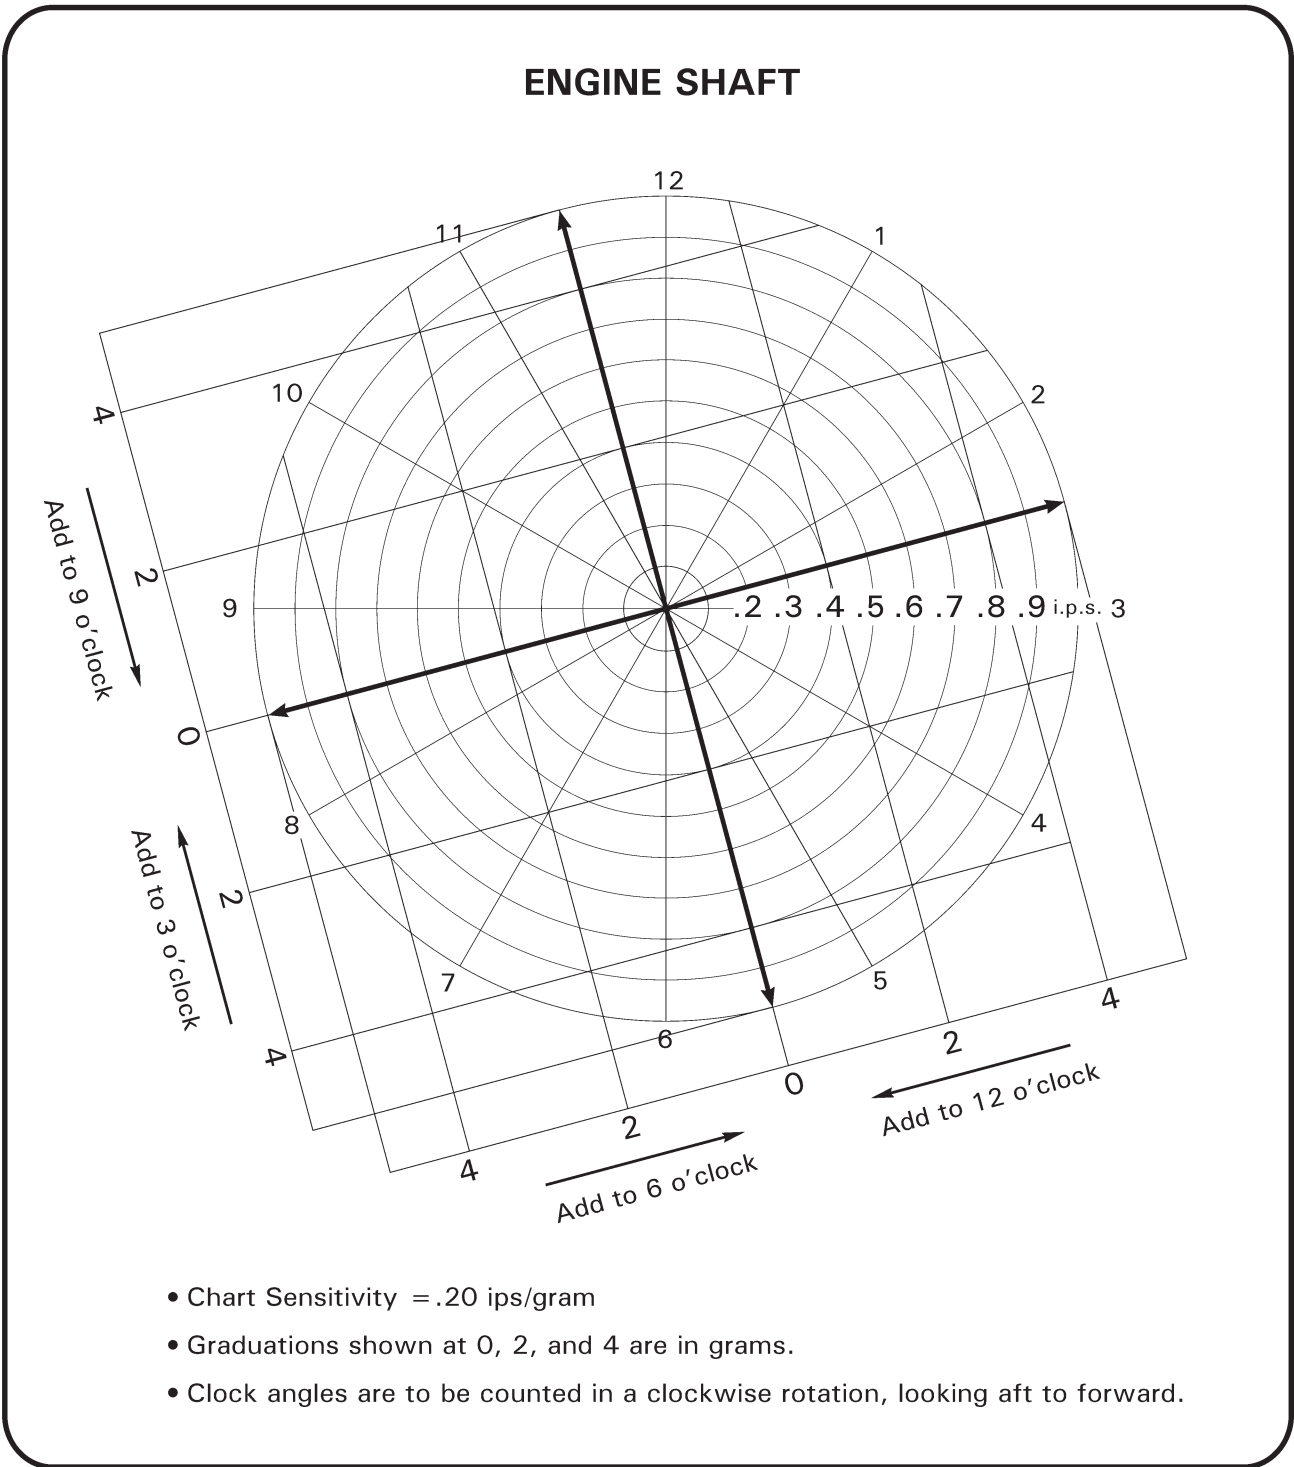

FIGURE 18-14 ENGINE SHAFT BALANCING CHART
- b. Engine Shaft: Refer to Figure 18-14. Adjust balance by selecting one or more NAS1149D0463J, NAS1149F0432P, NAS1149F0463P, A214-3, or A141-14 washers as required and install under one nut of aft flex plate (engine driveline) fastener. After first adjustment, if engine shaft does not respond correctly to balance weight, verify TIR of F018 clutch's housing is less than 0.004 inch (rotate TR backwards by hand to rotate clutch housing) before making further weight changes. If TIR exceeds limit, contact RHC Technical Support.